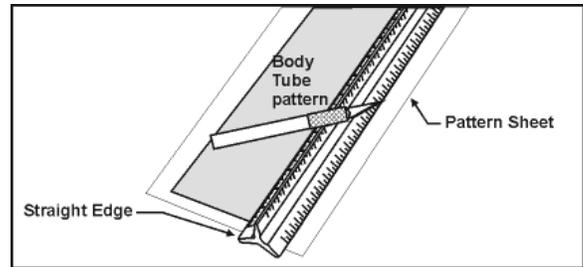

Figure 1
1. Referring to **Figure 1**, use a straight edge and razor knife to cut out the **Body Tube** from the provided pattern.